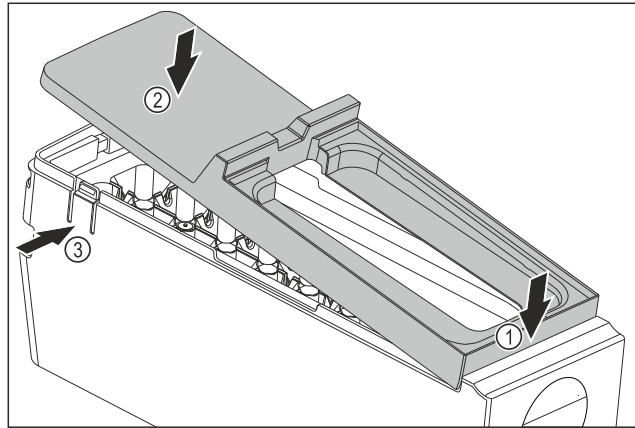

Fig. 175
- ▶ Installing the EasyTwist-Ice body cover: Place the cover on the front. Fig. 175 (1)
- ▶ Lower the cover at the rear. Fig. 175 (2)
- ▶ The cover locks into both tabs Fig. 175 (3) audibly.